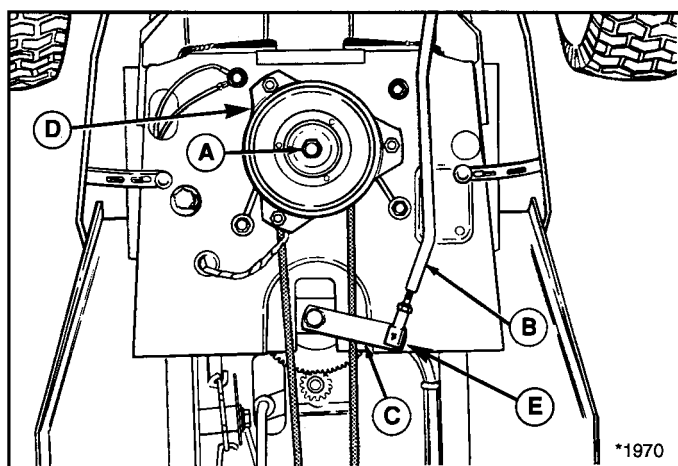

Figure 36. Drive Belt PTO Pulley
4. See Figure 36. To remove belt from engine pulley, the PTO (electric clutch) must be removed and the belt slid over the top of the pulley. Disconnect the PTO wire. Remove the capscrew (A) along with the hex washer and lockwasher securing the PTO to the engine crankshaft. Slide belt over the top of the engine pulley.
5. See Figure 36. Install new belt over engine pulley before re-installing the electric clutch. Install hex washer, lockwasher and capscrew (A). Lubricate weld tab on underside of tractor (D). Make sure tab is aligned with hole in top of electric clutch, then tighten capscrew to 45-50 ft. lbs. (61-68 N.m.).
6. See Figure 36. On left-hand side of tractor, remove nut from capscrew (E) securing drag link (B) to steering arm (C). Drop old belt below drag link. Route new belt above drag link before re-installing nut on drag link, then tighten nut.